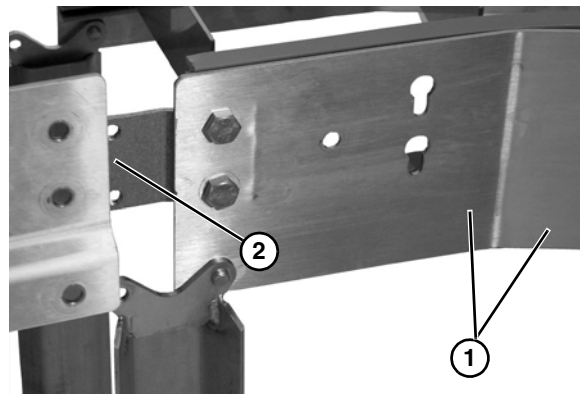

Figure 8
3. When securing straight section to curved section on inside curve (Figure 8, item 1) make sure offset plate is to the inside of straight section (Figure 8, item 2).